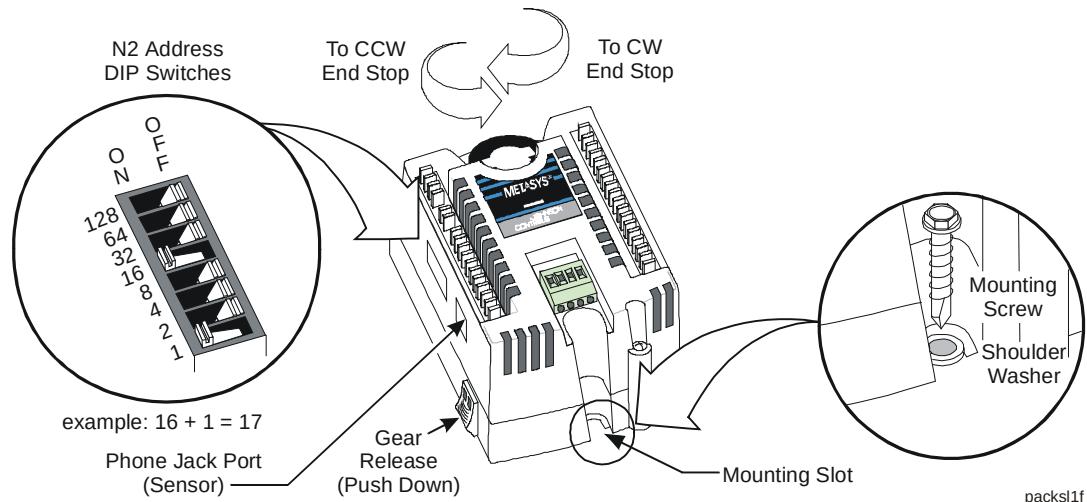

Figure 1: VMA1410/1420 Controller
In hardware addressing, the N2 address DIP switches on the side of the VMA are manually set to the appropriate address (Figure 1). The N2 hardware address equals the sum of the values beside each DIP switch that is set to ON. For example, if the first DIP switch (1) and the fifth DIP switch (16) are both set to ON, the N2 hardware address for that controller is 17 ($1 + 16 = 17$).
5. Note the direction, Clockwise (CW) or Counterclockwise (CCW), required to close the damper. Grasp the damper shaft firmly with pliers and either manually close the damper for 90° boxes or manually open the damper for 45° or 60° boxes.
6. Push down and hold the gear release lever (see Figure 1), and turn the VMA coupler until it contacts the mechanical end-stop at either the fully closed (90° boxes) or fully open (45° or 60° boxes) position.